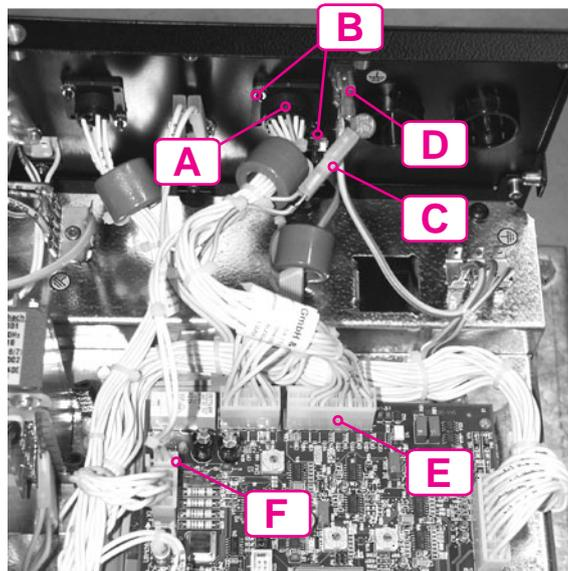

Fig. 3 Socket, installation
- Insert connection socket with cable harness (Fig. 3, A) into the opening in the casing from inside
- Screw on the connection socket from inside using ratchet nuts (Fig. 3, B)
- Connect the capacitor module between the cable harness connector plug (Fig. 3, C) and the earthing point (Fig. 3, D)
- Plug the 18-pole connector plug on the cable harness into plug X5 on PCB T320/1 (Fig. 3, E)
- Plug the 2-pole connector plug on the cable harness into plug X6 on PCB T320/1 (Fig. 3, F)